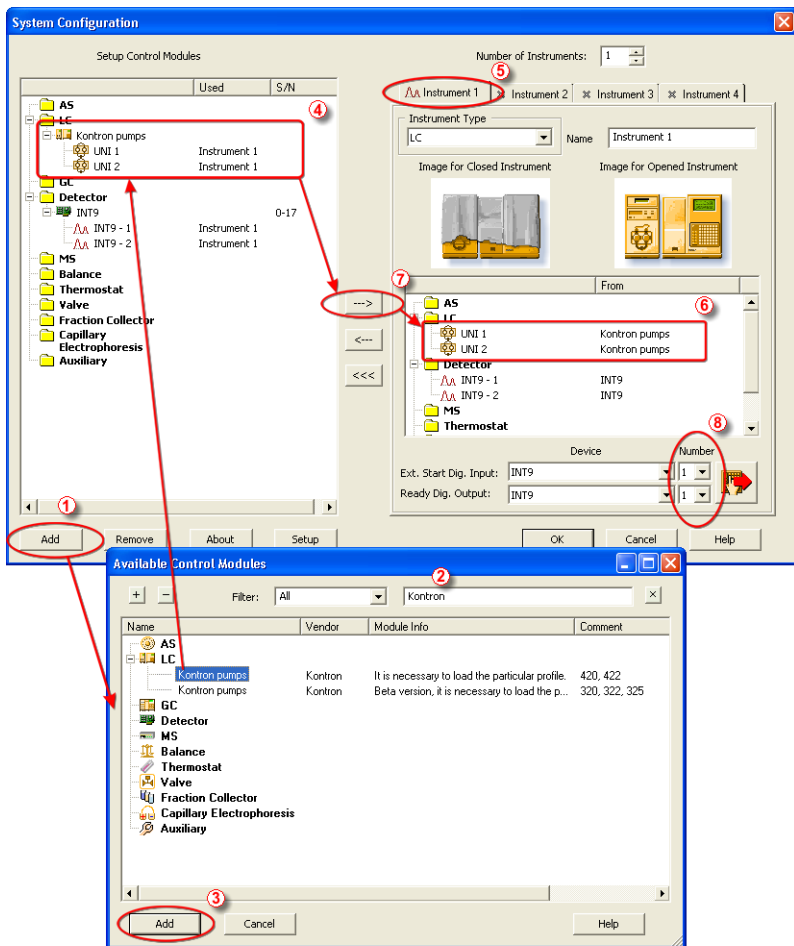

Fig 2: How to add **Kontron pumps**
- Press the **Add** button ① (see Fig 2 on pg 5.) to invoke the **Available Control Modules** dialog.
- You can specify the searching filter ② to simplify the finding of the driver.
- Select the **Kontron pumps** item and press the **Add** ③ button.